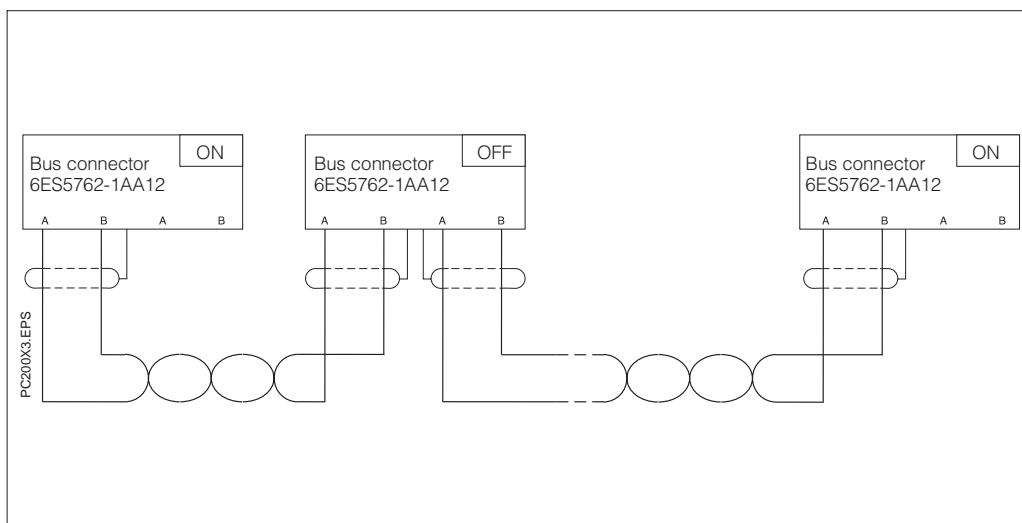

Bild 4.2: Bus cable connection diagram
- Strip the wires according to fig. 4.2.